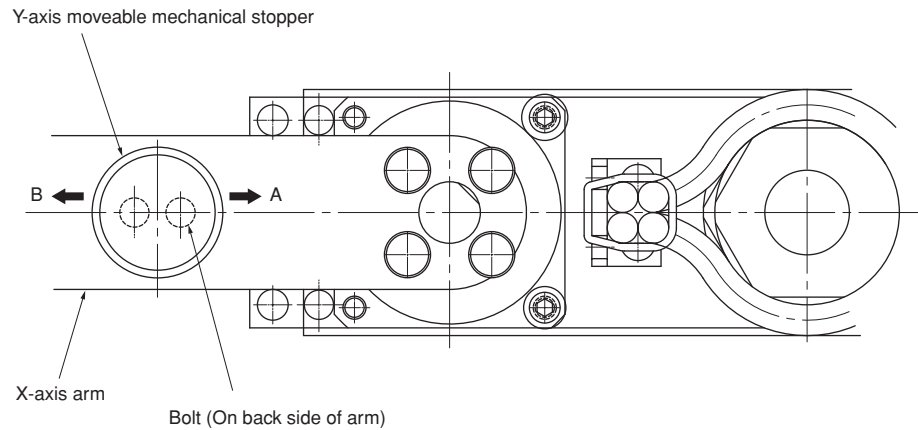

Fig. 4-10 Adjustment of Y-axis machine reference
- 8) Using a hexagon wrench, loosen the two bolts fixing the Y-axis movable mechanical stopper. (See Fig. 4-10.)